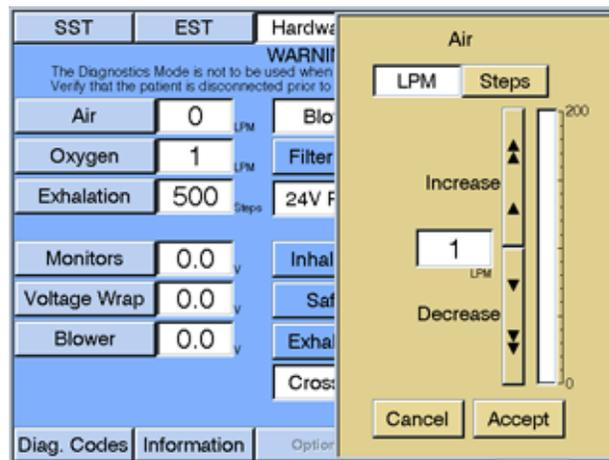

Figure 8-15: Diagnostic Mode - Setting Air Flow
4. Touch **Air** on the Hardware screen and set the flow to 1 LPM (Figure 8-15). Verify that the *Air Position* display reads from 185 to 525 steps.